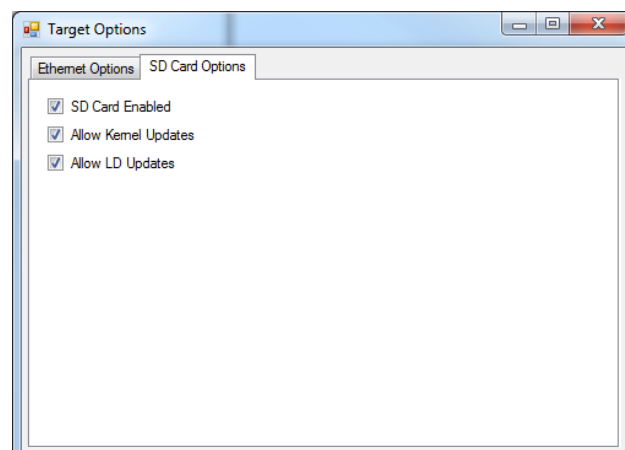

Figure 2.39 - HEC-P5XXX SD CARD OPTIONS
8. Click the **TARGET OPTIONS** button. The Target Options window will open. There will be two tabs in this window. Click the **SD CARD OPTIONS** tab. See Figure 2.39.